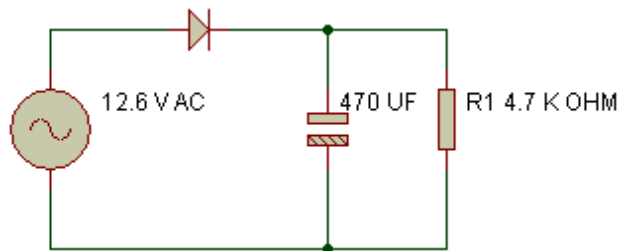

Figure 5
1. Place the components into breadboard according to schematic figure 5.